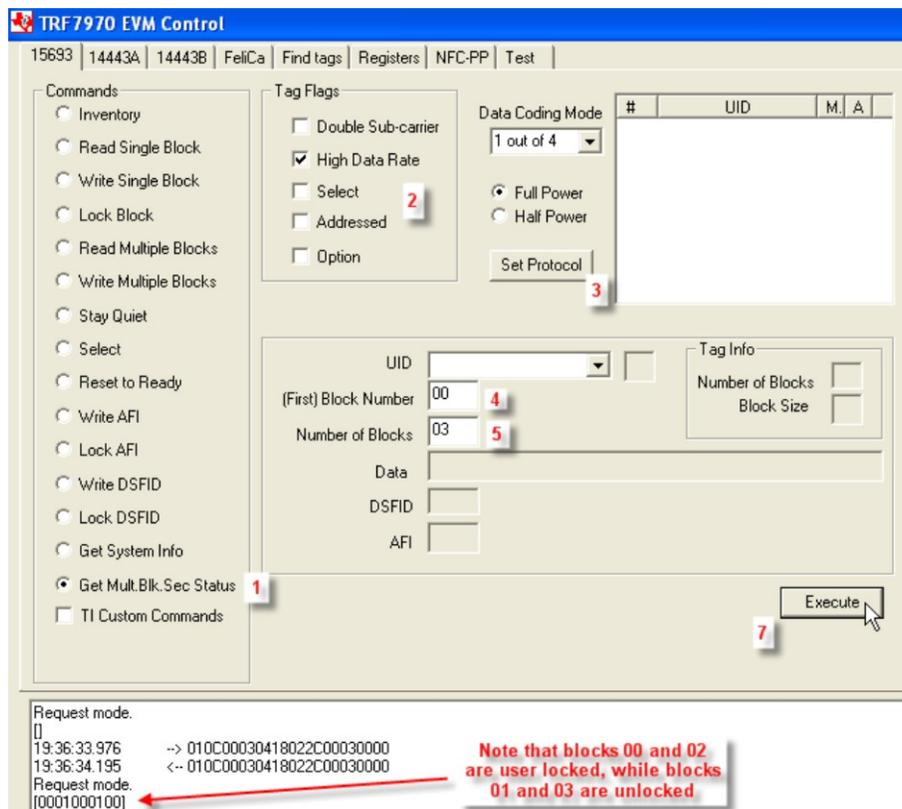

Figure 19. Get Multiple Block Security Status Command Example
2. Select Tag Flags accordingly (see Figure 19 for one example).